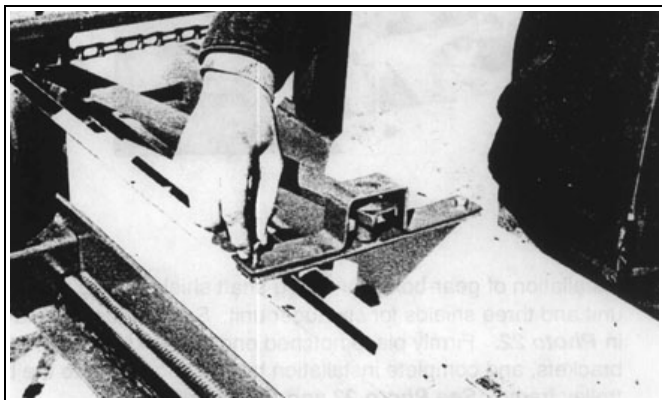
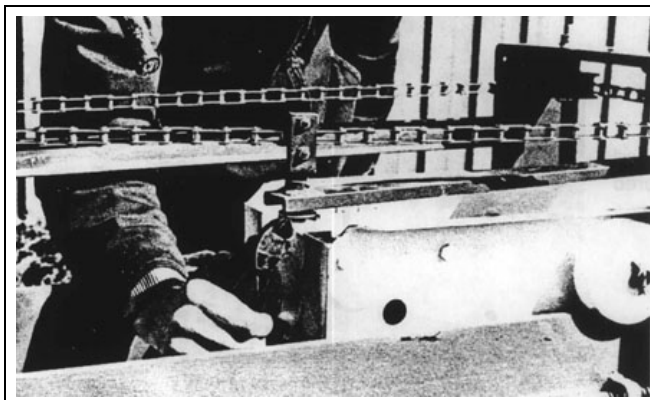

Figure 4Y
Figure 4Z
23. Installation of trolley drive arm assembly, which consists of three (3) pieces: *(See Page 44 or Page 60.)* Attach to the trolley as shown in *Figure 4Y* using two (2) 5/16" x 1" hex head bolts with lock washers and nuts. Attach opposite end of drive arm to chain connecting angle, using one 5/8" SAE washer and one 5/32" x 1" cotter pin. *(See Figure 4Z and Page 54.)*